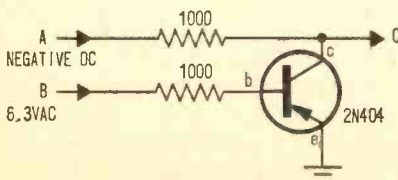

Fig. 5. Transistor chopper can be used for AC calibration if DC voltage fed to it is known. Square-wave AC output will be of almost the same value as DC input.
**Making A Chopper.** Fig. 5 shows the schematic of the chopper. Maximum DC voltage which can be applied is determined
achieved by this means, you can check the meter reading obtained from the same DC voltage by the chopper technique in Fig. 5. You should end up with a correction factor that will permit you to use the technique in Fig. 6 with any type of meter. By this means you can obtain other calibration points without the need for several sizes of bulbs.